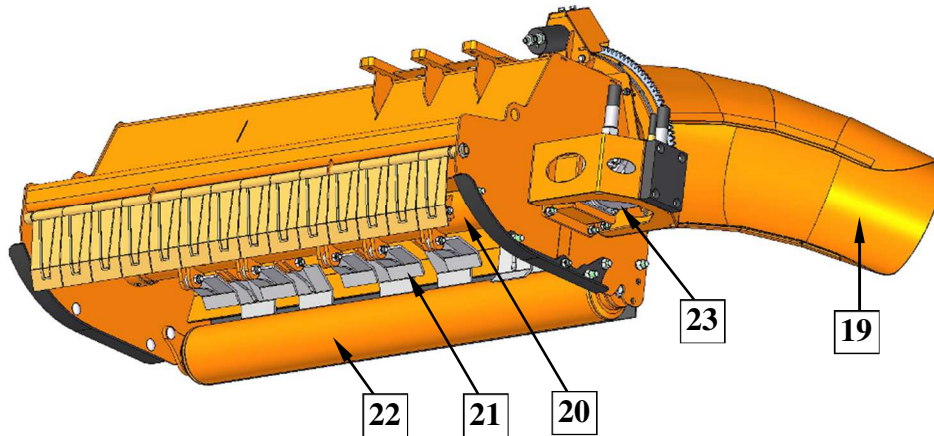

Fig. 17. Overview of Lama 101P mowing head with ejection
Lama 101P (**Fig. 17**) – mowing head with ejection comprises flail shaft (20) with flail knives (21) mounted with mounting screws. Alike KW and Lama heads, the flail shaft (20) of mowing head is driven by hydraulic motor (23). Ground following shaft (22) has mowing height adjustment function (Section 6.3). Ejector (19) comprises a fixed and a movable part, and the latter is controlled with hydraulic motor driven directly from the tractor's hydraulics.